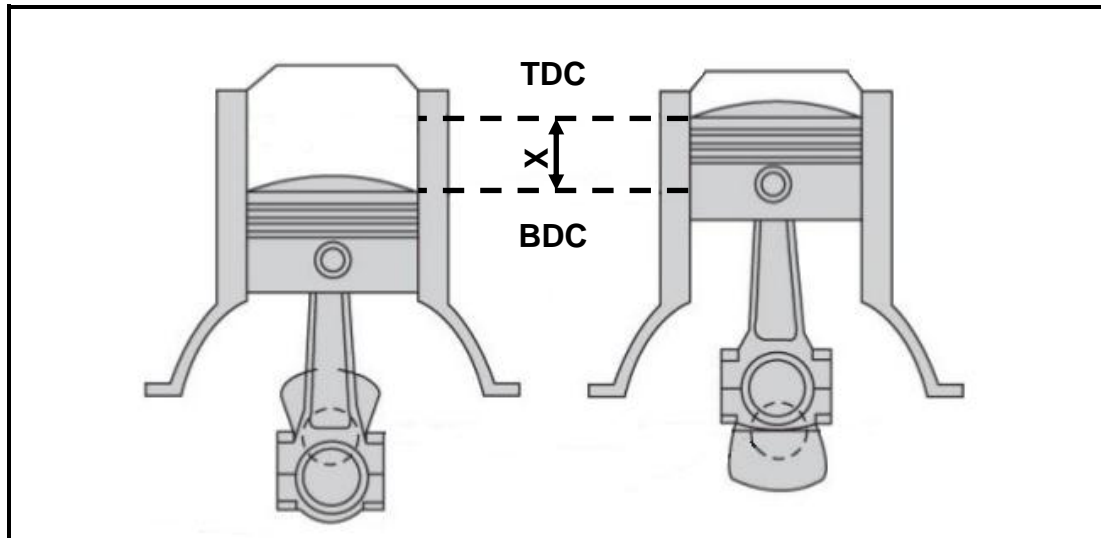

FIGURE 4.6
- D Fit a crankshaft with a shorter stroke. (1)
4.6 What does the symbol **X** in FIGURE 4.6 indicate?